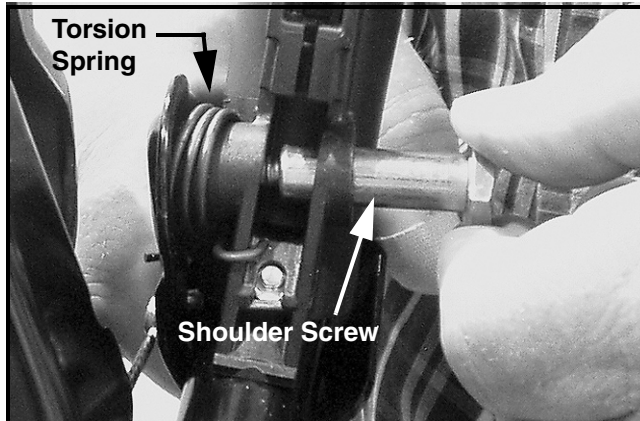

FIGURE 9
21. While firmly holding the torsion spring loaded clutch lever in it's assembled position, carefully remove the existing shoulder screw and replace it with a new Shoulder Screw, Item 6. See Figure 9.